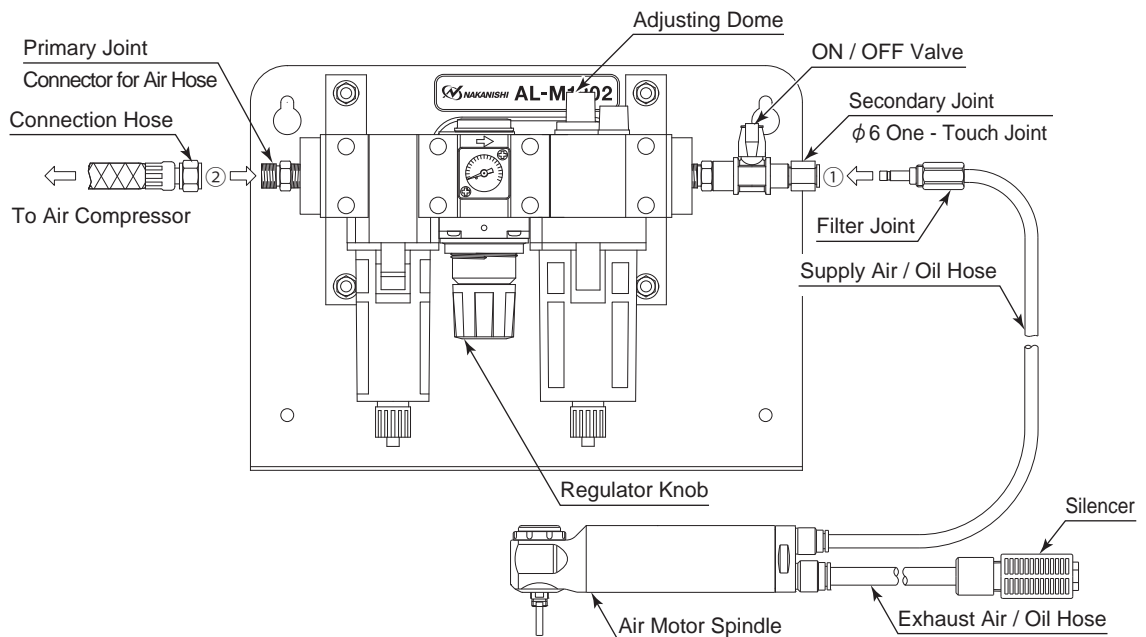

Fig. 13 Connection of Air Line Kit " AL - M1202 (Sold Separately) "
- ① Connect the Filter Joint of the supply air / oil hose to the Secondary Joint ($\phi 6$ One - Touch Joint) of the Air Line Kit (Fig. 13 ①).
- ② Fill Oil Reservoir through the Oil Filler Cap with recommended NAKANISHI Lubricating Oil (K - 211 : Air Line Kit's Standard Accessories) to Upper Limit. Disconnect from air supply prior to opening Oil Filler Cap. Do not over or under fill.
- ③ Connect the connection hose (Air Line Kit's Standard Accessories) to the Primary Joint of the Air Line Kit and Compressor (Fig. 13 ②).
- ④ Supply air from the air compressor and turn the Regulator Knob to set air pressure between 0.3 - 0.5 MPa (43.5 - 72.5psi).
- ⑤ Turn the ON / OFF Valve and rotate the Air Motor Spindle with recommended proper air pressure. Adjust the Oil Drip Rate to the recommended volume which is 1 to 3 drops / min. (Commercially Air Line Kit is same Oil Drip Rate).
- ⑥ Be sure to adjusted to proper Oil Drip Rate before using the Air Motor Spindle.